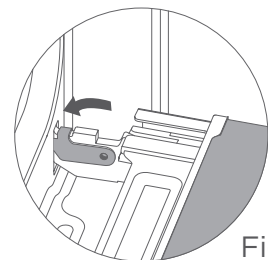

Fig.3
7. After closing the locking levers on the right and left by pushing them inwards as shown in Fig.3, if the oven door is mounted correctly you can close it without any problem; in addition to closing correctly, if the oven door is mounted correctly, it must leave the ventilation slots between the glass door and the control panel free.